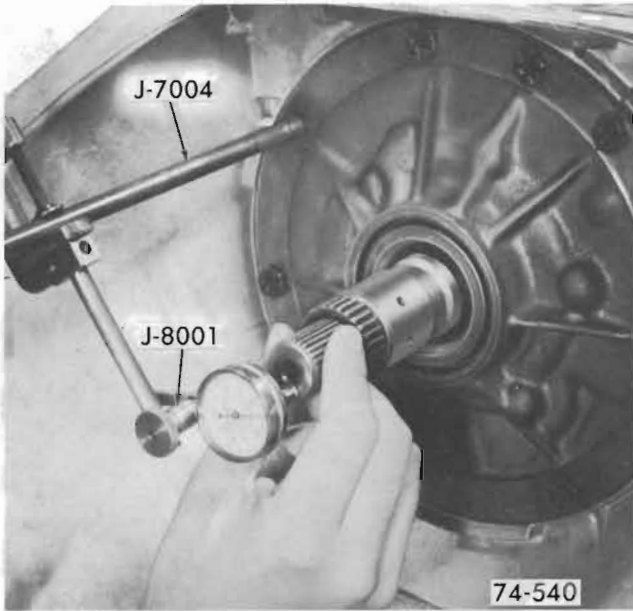

Figure 76-84
b. Install a 5/16-18 threaded slide hammer bolt or J-7004, into bolt hole in pump. See Figure 76-84.
c. Mount dial indicator on the rod and index indicator to register with end of turbine shaft. See Figure 76-84.